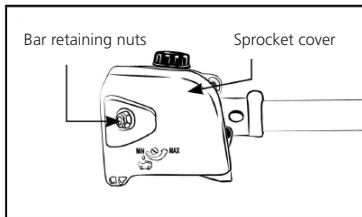

Fig. 3A
1. Remove the retaining nuts from the bar and screw in. Then remove the sprocket cover. (Fig. 3A)
5. Install the sprocket cover and tighten the bar retaining nuts and screw (Fig. 3A).